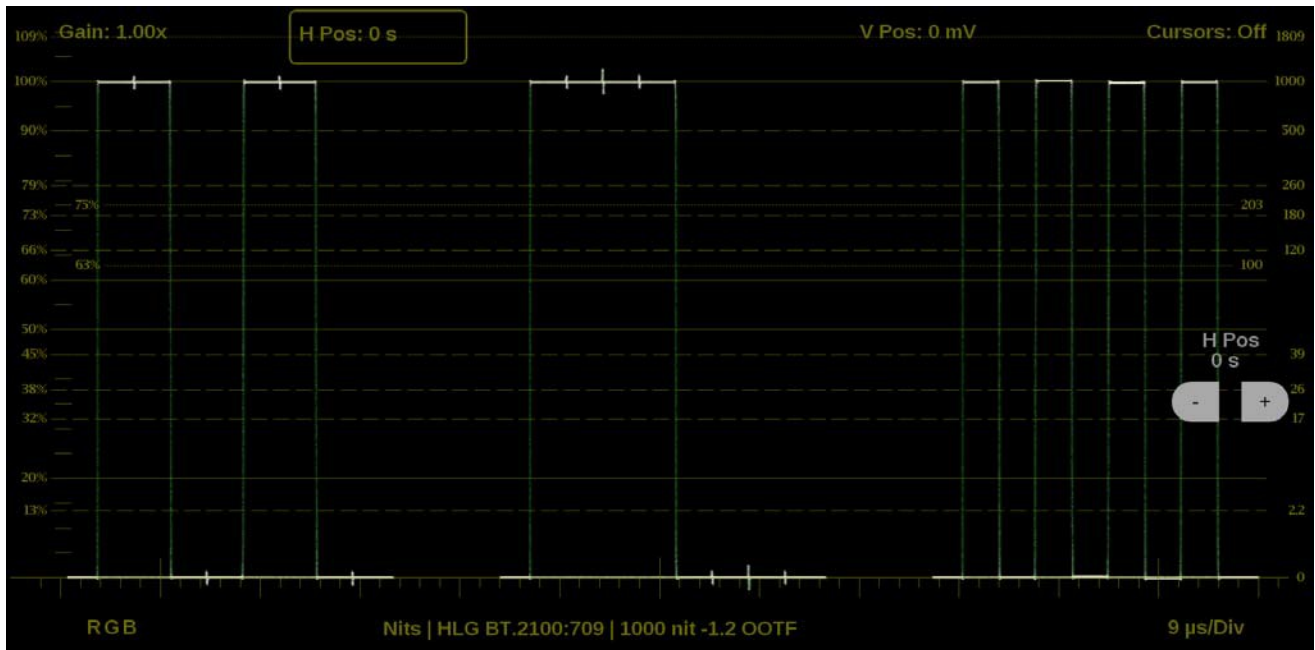

Figure 93: Waveform on-screen tools – horizontal position
1. Select the **H Pos** button to allow incremental adjustment of the horizontal trace. (See Figure 93.)